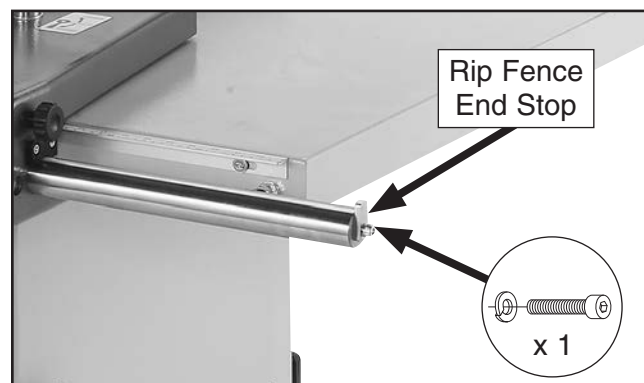

Figure 40. Rip fence end stop attached to rail.
28. Install riving knife or splitter/riving knife, as shown in **Figure 40**, but do not tighten mounting bolt yet (refer to **Riving Knife Alignment** beginning on **Page 43** for detailed information).
34. Attach rip fence end stop on opposite end of rip fence rail with (1) M8-1.25 x 15 cap screw and (1) 8mm lock washer (see **Figure 40**).